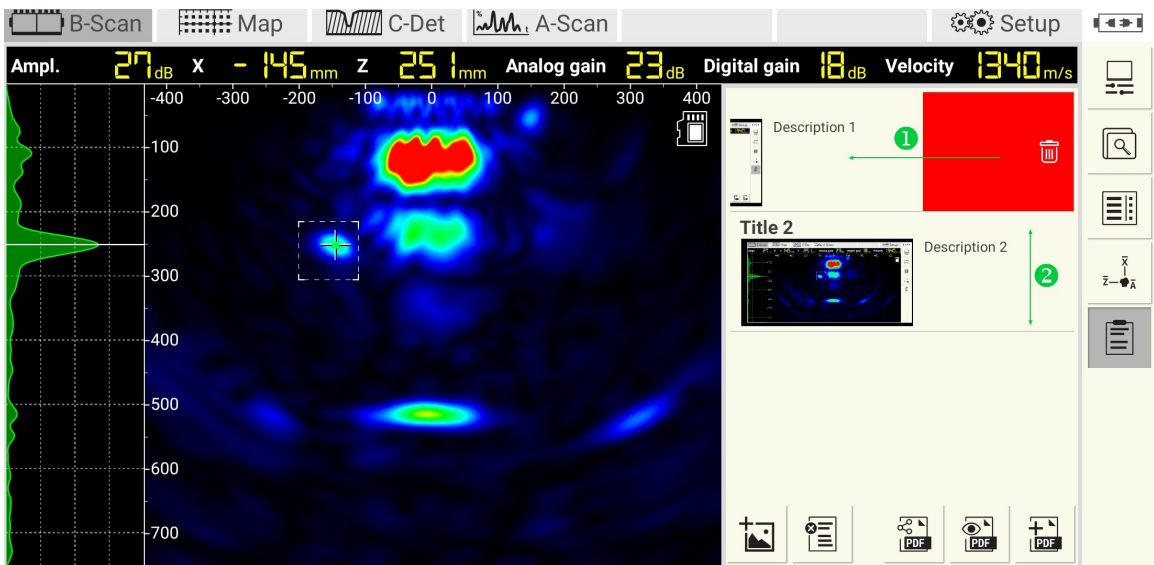

Figure 19: Working with list of screenshots
Delete a screenshot from the list by swiping the item from right to left, see ① on Figure 19. While swiping, the basket is going to replace the item. Confirm the deleting with YES or abort with NO.